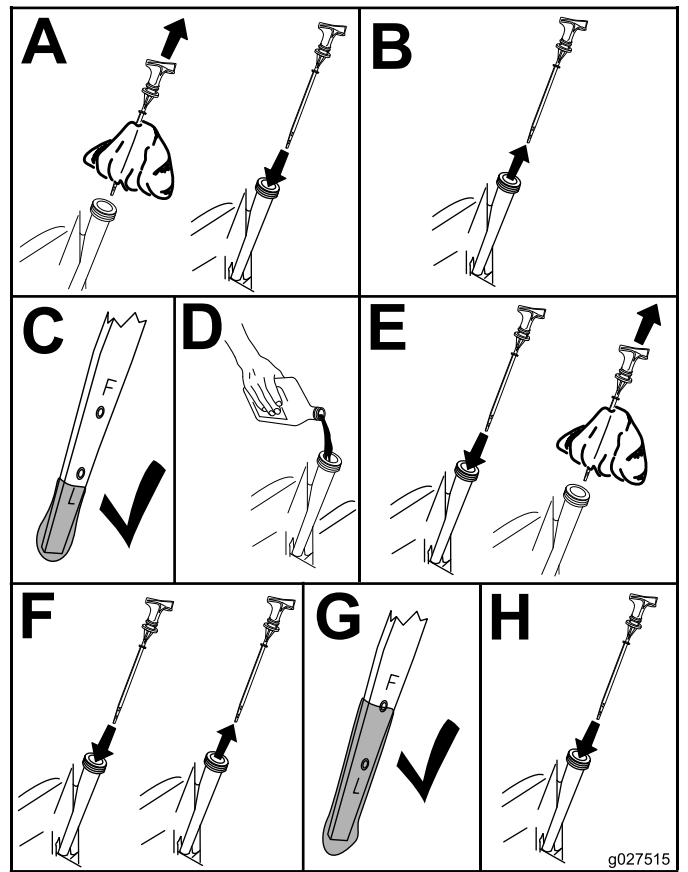

Figure 55
3. Check the engine-oil level (Figure 55).